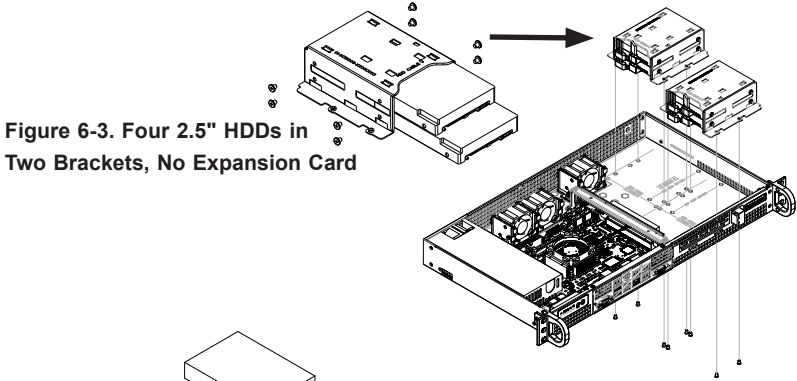

Figure 6-3. Four 2.5" HDDs in Two Brackets, No Expansion Card
One to four 2.5" hard drives may be installed in several different configurations. Refer to Figures 6-3 and Figure 6-5.
8. Place the hard drives and brackets into the chassis as illustrated in Figure 6-3 or Figure 6-5. Orient two or more drives with the cable connections facing the inside of the chassis.